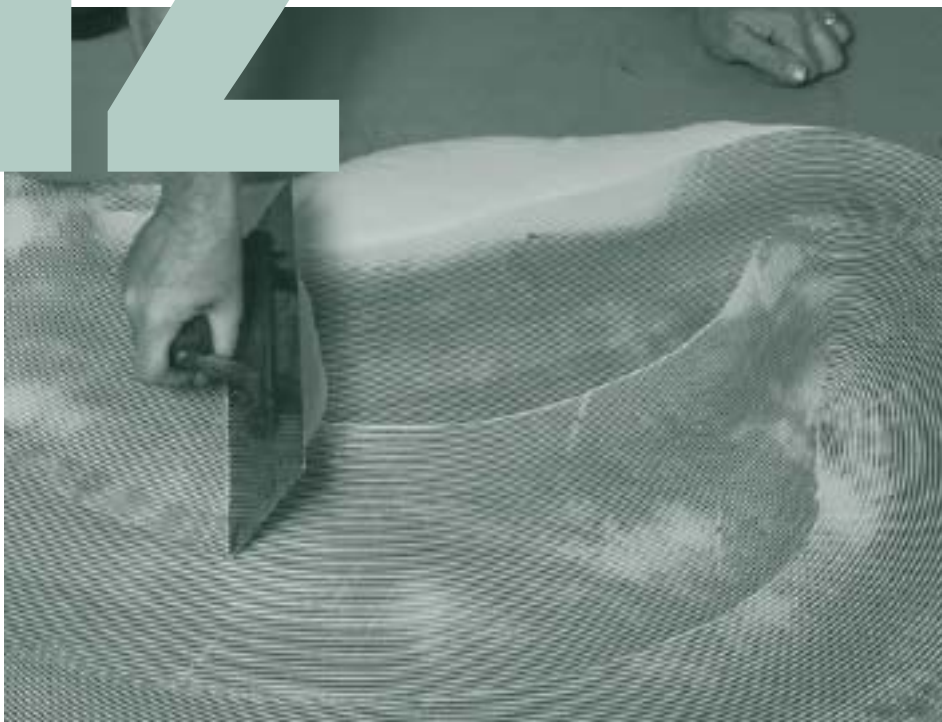

Figure 30 Final trim after the weld has cooled
B. *When the remaining weld has cooled to room temperature, the excess weld should be trimmed. The spatula knife, again honed edge uppermost, is used without the trimming guide. Keep as shallow an angle as possible between blade and floor to avoid the risk of "digging in" (Figure 30).*